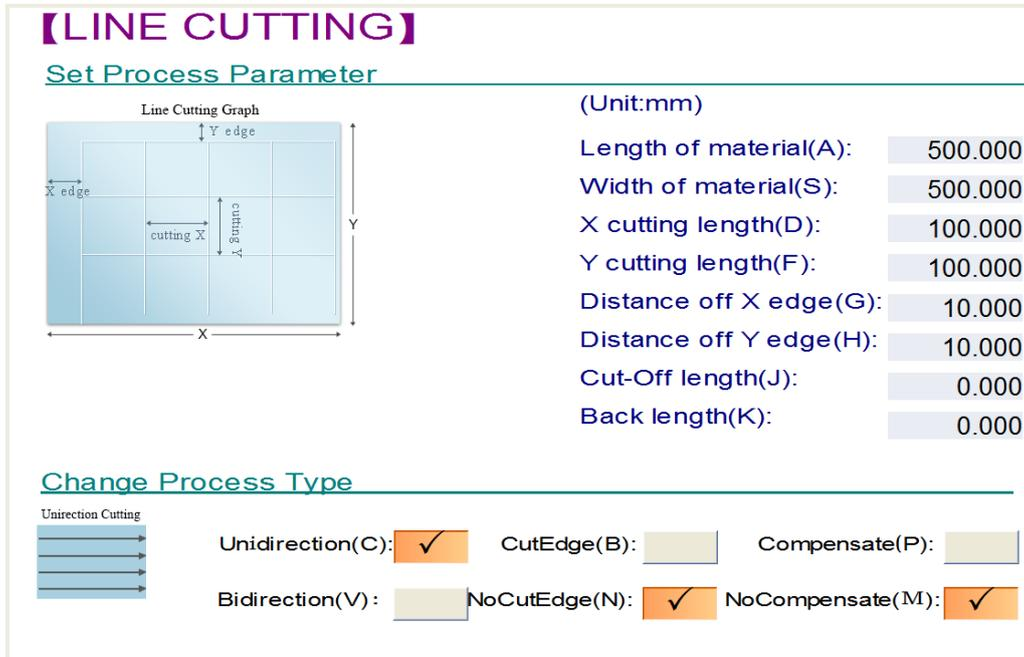

Fig. 4-14 Interface Process Wizard-Line Cutting
- 1) Access interface **ProcessWiz** according to section 4.1.8. and select **LineCut** to get sub-interface Line Cutting, as shown in Fig. 4-14. Set process wizard of linear cutting, including length/width of material, cutting length in X/Y axis, the distance off X/Y edge, cut-off length and back length. Then proceed with trial cutting.